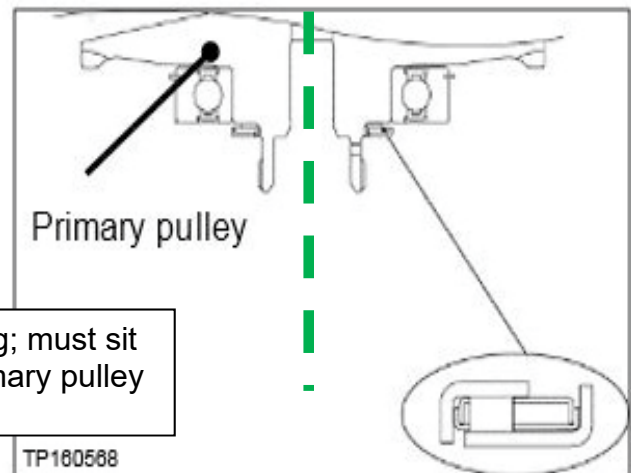

Figure 101
- The thrust bearing has two sides. Reference Figure 101 for bearing orientation.